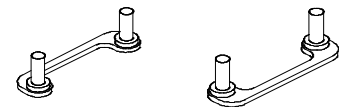

Figure 2-4
- ❑ RM Attach Mount (RMAM) - Bolt/Bridge assemblies inserted up through the bottom of the mainboard. Then secures the RM to RMAM (two RMAM required per RM). (Refer to Figure 2-4)